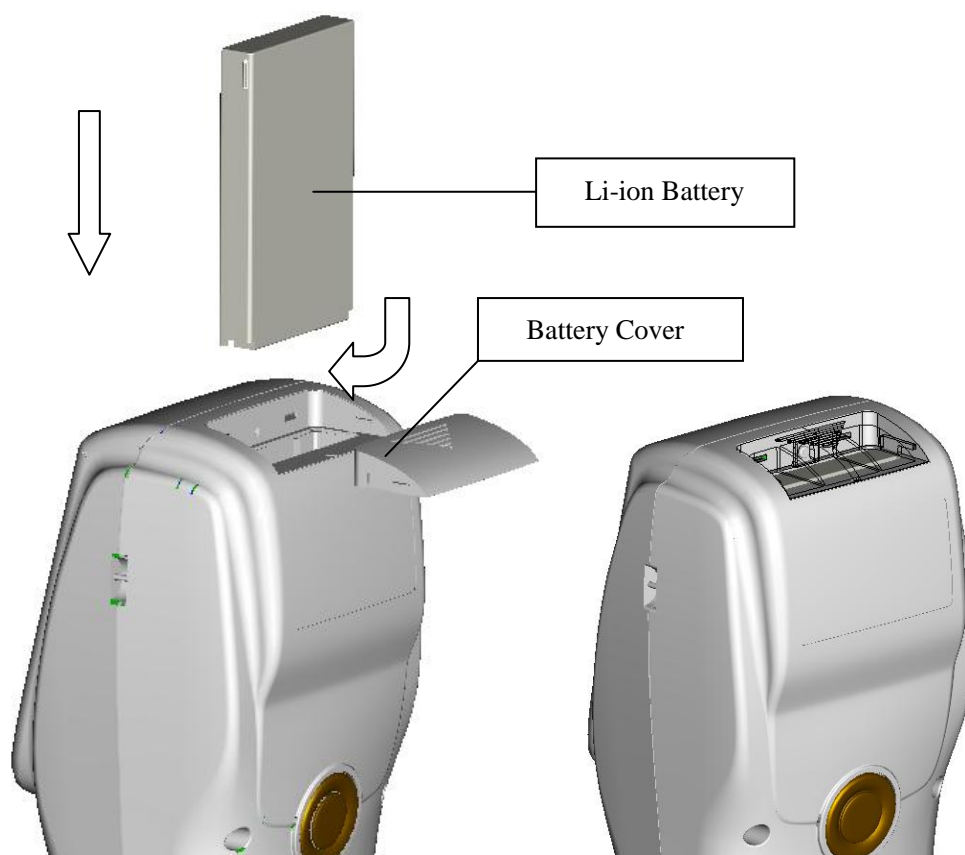

Figure 2 Battery Installation
3. Put the battery cover on Li-ion battery, and then push it up as shown in Figure 2.